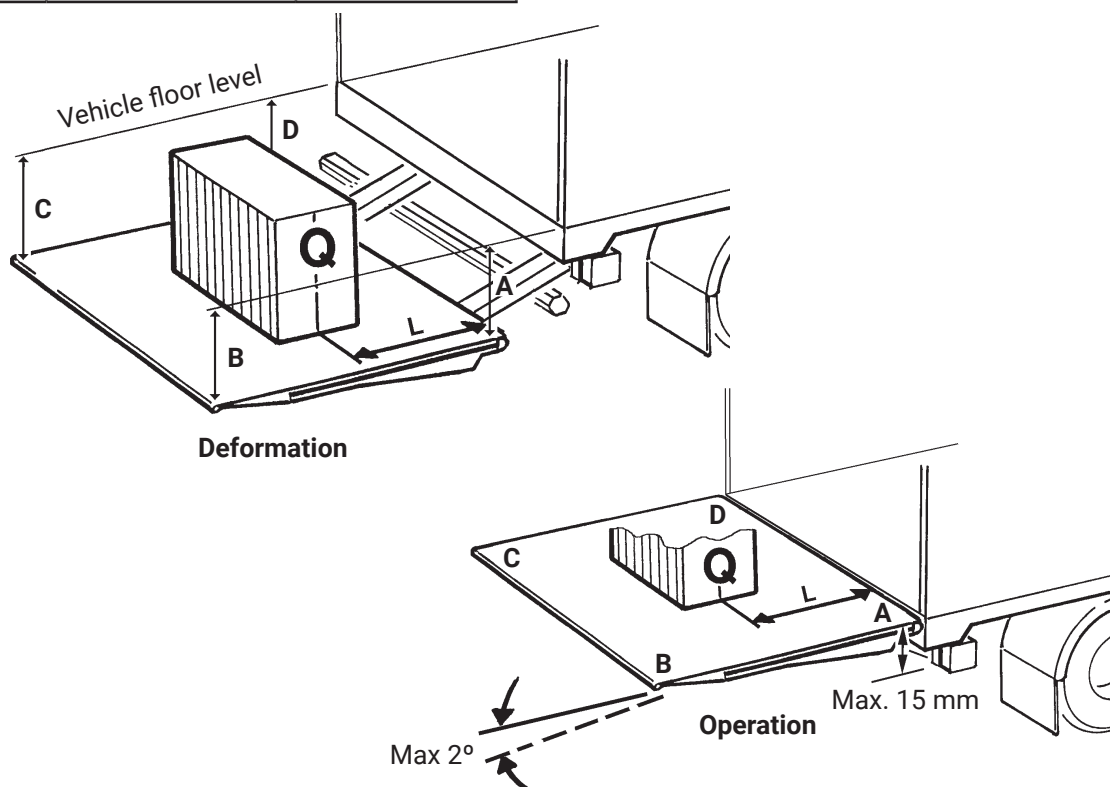

Figure 77. Testing and verification
- Position the lift gate half way to vehicle floor level and with the platform horizontal. Measure dimensions A-B-C-D for comparison as illustrated. Figure 77